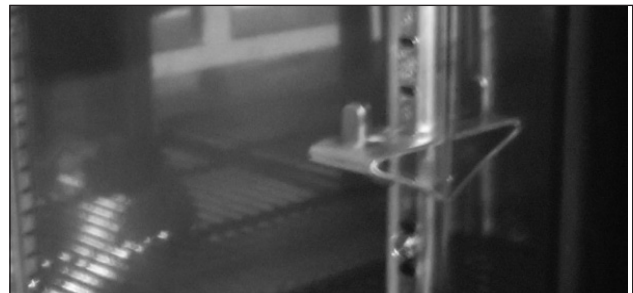

**Figure 11: Installing Door**
12. Lift door assembly and insert top pin into bearing. Move door toward cabinet and align V-blocks (Figure 11).